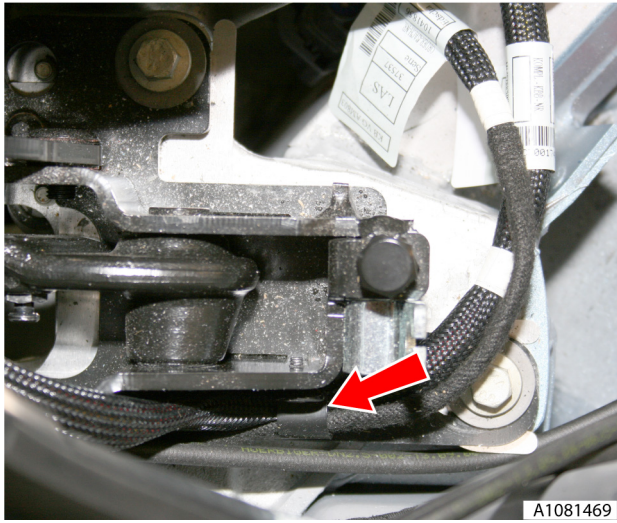

Fig. 9
- Remove P-clip screw securing harness to roof mounting bracket, release clip from harness (see Fig. 9).